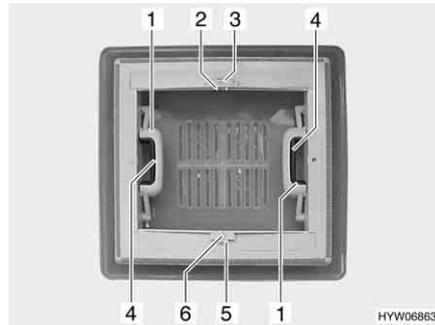

Fig. 17 Skylight with snap latch
Opening: ■ Push the spring-loaded latch (Fig. 17,4) towards the inside of the skylight. At the same time use the handle (Fig. 17,1) to press the skylight upwards.
Closing: ■ Using both handles (Fig. 17,1), pull down the skylight with force until the two snap latches lock into place.
Closing: ■ Push the locking mechanism (Fig. 17,5) towards the outside of the skylight.
■ Pull blind at the handle (Fig. 17,6) to the opposite handle of the insect screen (Fig. 17,2) and allow to engage.
Opening: ■ Clench the handle (Fig. 17,2). The latch is released.
■ Use the handle (Fig. 17,6) to move the blind slowly back to its initial position.
Closing: ■ Push the locking mechanism (Fig. 17,3) towards the outside of the skylight.
■ Pull insect screen at the handle (Fig. 17,2) to the opposite handle of the blind (Fig. 17,6) and allow to engage.
■ Use the handle (Fig. 17,2) to slowly move back the insect screen.